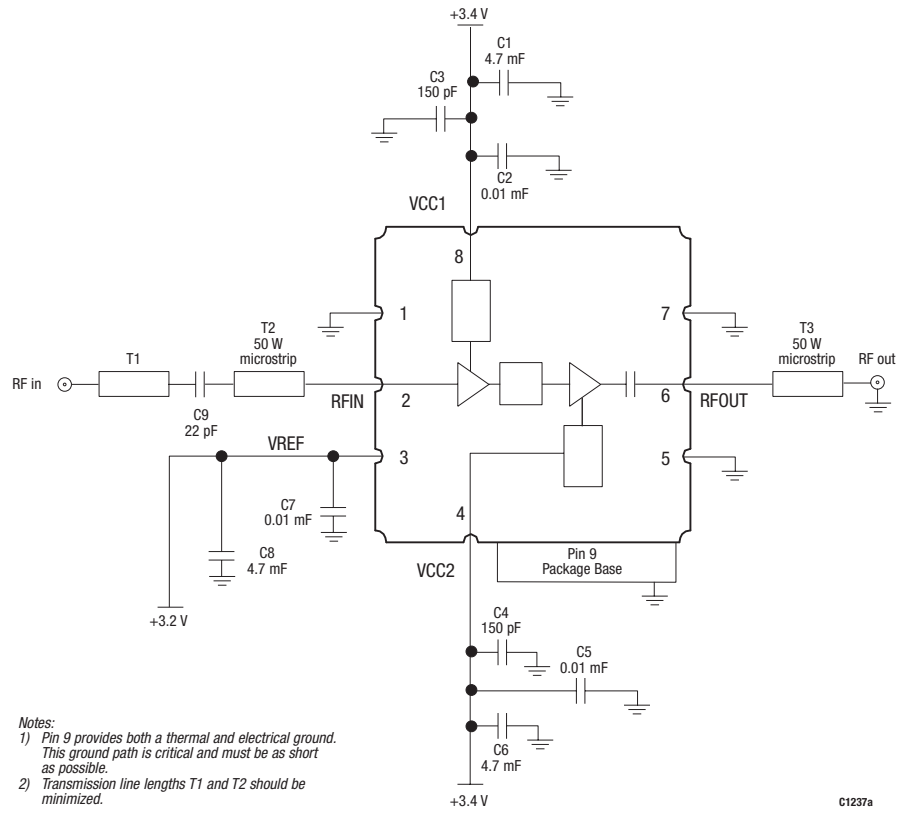

Figure 11. Evaluation Board Schematic, 700 MHz to 1000 MHz
Skyworks CX65100 Evaluation Board is used to test the performance of the CX65100 PA. The Evaluation Board schematic diagram is shown in Figure 11. The schematic shows the basic design of the board for the 700 to 1000 MHz range. Figure 12 provides the Evaluation Board assembly diagram. Figure 13 provides the Evaluation Board layer detail.
3. Three external output bypass capacitors (150 pF, 0.01 μ F, and 4.7 μ F) are required on the VCC1 (pin 8) supply input. The same three capacitors are also required on the VCC2 (pin 4) supply input. All three capacitors should be placed in parallel between the supply line and ground. Also, 0.01 μ F and 4.7 μ F bypass capacitors are required on the VREF input (pin 3). See Figure 11 for a detailed diagram.